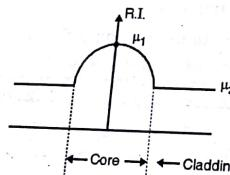

Fig. 5.5.2 : R.I. profile for GRIN fibre
- In contrast to step index fibre, the graded index fibre has its core refractive index gradually decreasing in a nearly parabolic manner from a maximum value at the center of the core to a constant value at the core-cladding interface, as shown in Fig. 5.5.2.